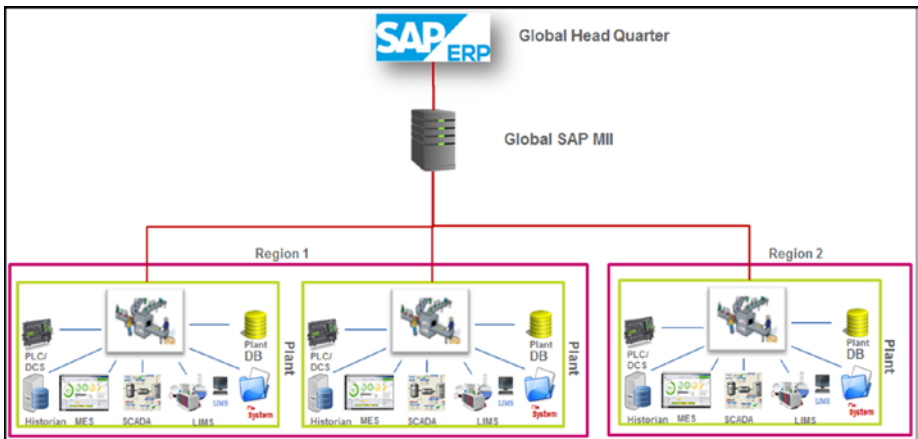

Figure 1-6. SAP MII global server landscape
- **Global installation:** There is only one SAP MII globally and it's located at headquarters or a datacenter. It is shared by all the manufacturing plants. See Figure 1-6.